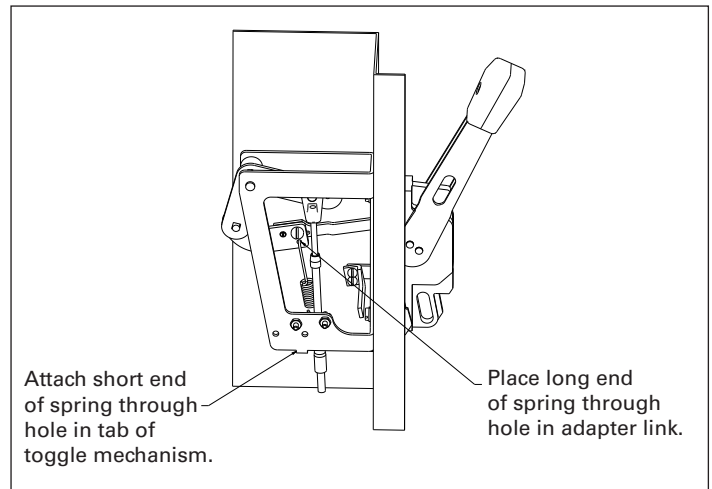

Figure 8. Assembly of the spring to the toggle mechanism.
6. Connect the long end of the spring through hole in the adapter link. Hook the shorter end of the spring into the tab on the lower portion of the toggle mechanism (see Figure 8).